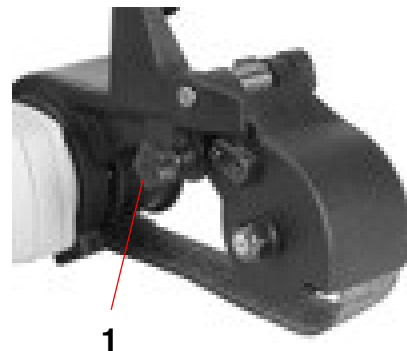

Fig. 5: Tape assembly on the Pipe sanding machine RSM 620
Step 2: Press the protective cover down and push the locking pin (1, Fig. 5).